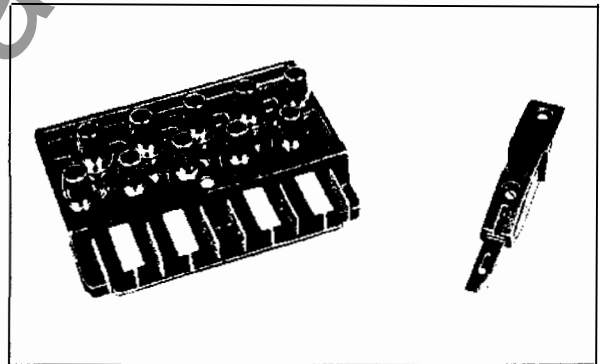

Fig. 19 *Test Plugs for Flexitest Cases and Test Switches (376448)*
1.2.3 Test plugs are furnished when Flexitest cases or Flexitest Type FT-1 test switches are mounted on the switchgear. See Fig. 19.